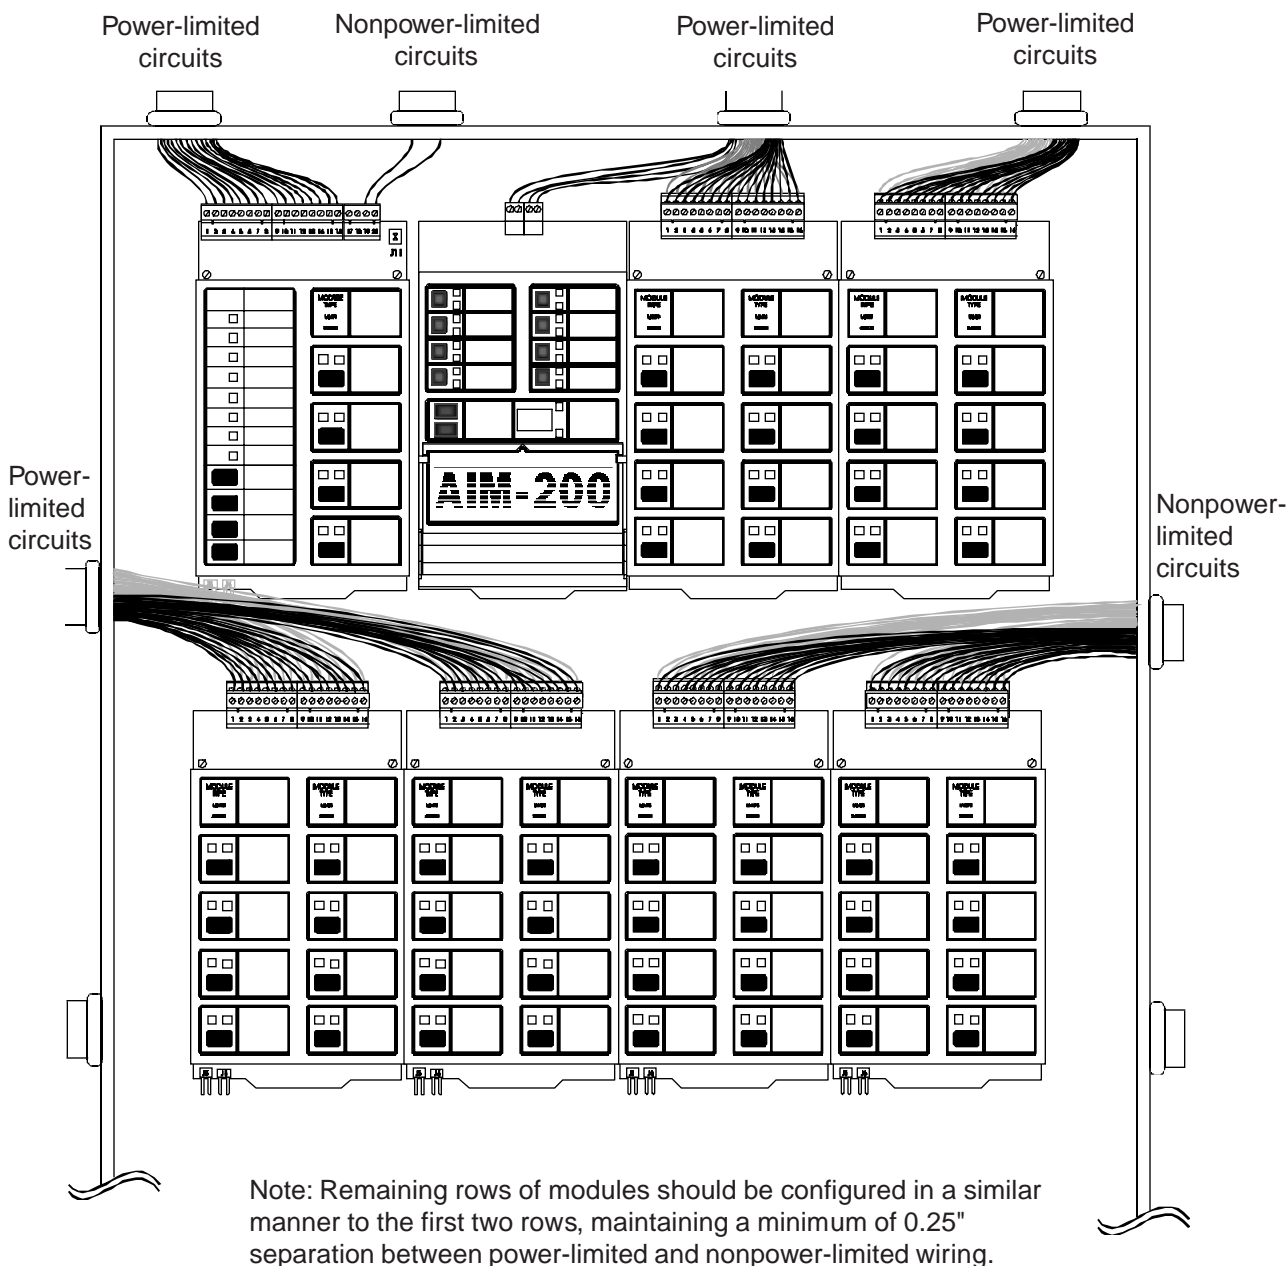

Figure 4-1: Typical Wiring Diagram for UL Power-limited Wiring Requirements
3.7 Preliminary System Wiring - The Main Power Supply and any AVPS-24s or ARM-4s should be wired at this time while their terminals are readily accessible. Refer to Section Five to wire the Main Power Supply, the AVPS-24s (see Figure 5-7) and any ARM-4s (see Figure 4-1).